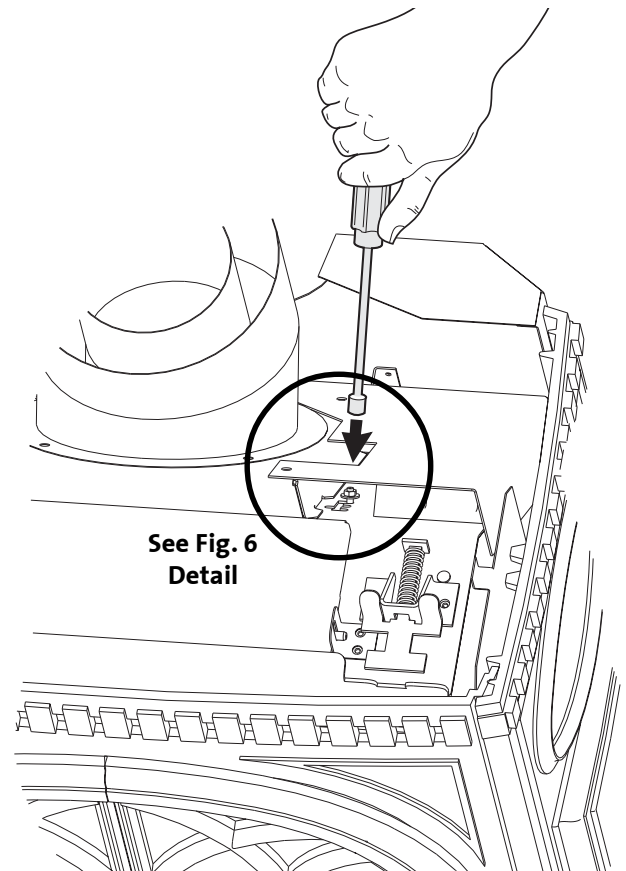

Figure 7. Use a nut driver to change the Exhaust Restrictor setting.
The Exhaust Restrictor is an adjustable shutter located at the top right side of the firebox. It is adjusted by moving a pivot pin into one of four positions. It is set in the **FULLY OPEN (D)** position at the factory. See Fig. 7. The four positions correlate to the termination zones (A,B,C,D) diagrammed in figures 9-12. Consult these Vent Window diagrams on pages 10-11 to determine the setting you should use.